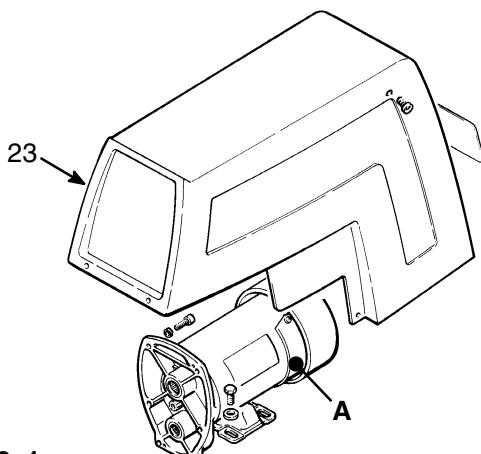

Fig 23–1
NOTE: Replace the brushes when they have worn to less than 1/2 in. Refer to STEP 1, Fig 23–3. Note that the brushes wear differently on each side of the motor, so check them both. Brush Repair Kit 220–853 is available.
1. Remove the motor shield (23). Remove the inspection covers (A) and gaskets on each side of the motor. Refer to Fig 23–1.
2. Push in the spring clip to release its hooks from the brush holder. Pull out the spring clip. Refer to Fig 23–2.
3. Loosen the brush lead terminal screw. Pull the brush lead away, but leave the motor lead terminal in place. Remove and discard the brush and spring. Refer to Fig 23–3.